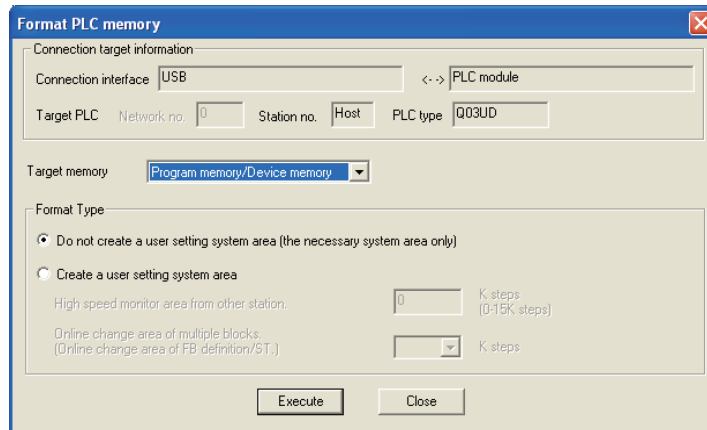

Figure 6.74 System area setting (when 1K step is set)
- Select [Online] → [Format PLC memory] in GX Developer to open the screen shown in Figure 6.74.